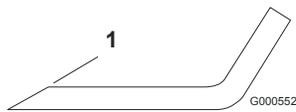

Figure 39
- Use a file to sharpen the cutting edge at both ends of the blade (Figure 39). Maintain the original angle. The blade retains its balance if the same amount of material is removed from both cutting edges.
- Check the balance of the blade by putting it on a blade balancer (Figure 40). If the blade stays in a horizontal position, the blade is balanced and can be used. If the blade is not balanced, file some metal off the end of the sail area only (Figure 39). Repeat this procedure until the blade is balanced.